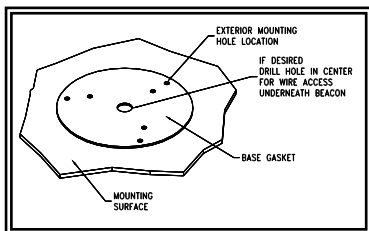

Figure 1
- Using the base gasket as a template, mark the three mounting hole locations (see Figure 1).
- A fourth hole may be drilled for wire access as shown in Figure 1, or the wires may be routed through the slot in the base for external access.